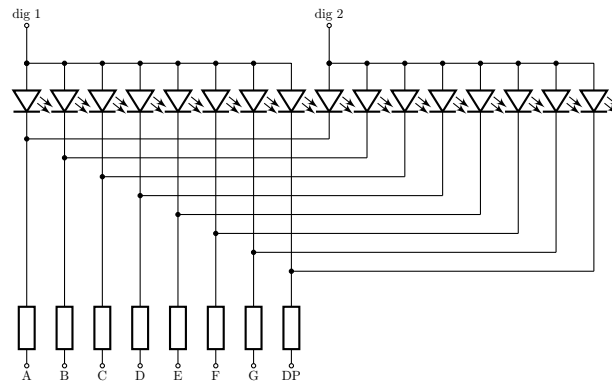

Figure 10: A 2-digit common anode digit with resistors (and a decimal point)
For an n -digit multiplexed 7-segment display, you must connect the limiting resistors as shown in Fig. 10 (the example circuit is only 2 digits). The digit pins are multiplexed, such that only one digit is on at a time, before switching to the next digit. This happens fast enough to not be seen.
4. $7I_F$ will flow through the digit pin while displaying the number '8'. Hence $7I_F$ should also be lower than what can handled by the Arduino I_F pin; 40 mA or preferably not more than 20-30 mA. Note that some displays have more than 7 segments per digit, i.e. if there is a decimal point (see Fig. 10) or colon (see Fig. 5). In that case, you need to multiply I_F by 8 or whatever number of segments are present per digit.